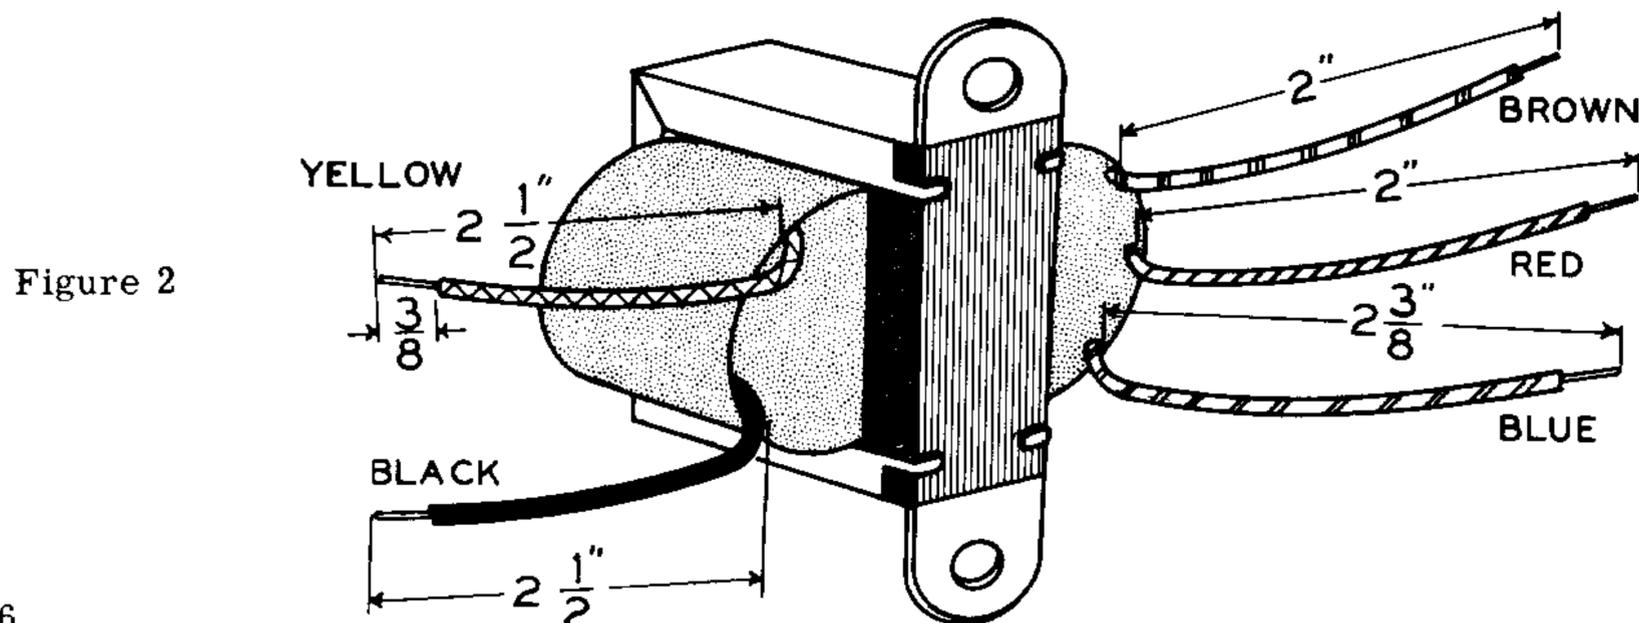

Figure 2
- ( ) Refer to Figure 2 and trim the black and yellow leads of the output transformer (#51-46) to 2 1/2" long. Trim the red and brown leads to 2" long and the blue to 2 3/8" long. Now trim the insulation 3/8" off the end of each lead. Twist the strands tightly together and tin lightly (apply a small amount of solder using a hot iron). Set the transformer aside for now.